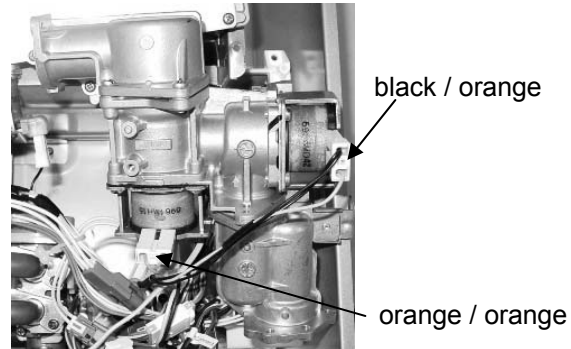

Figure 4
13. Install the gas valve and attach the wire harness to the 2 solenoids. (Figure 4)